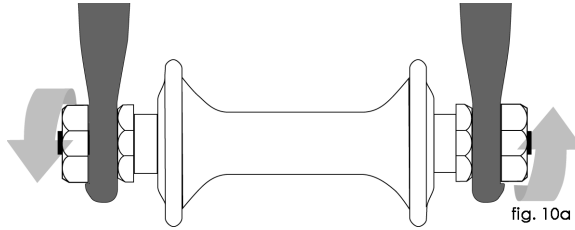

fig. 10a
- Hex nuts or hex key bolts which are threaded on to or into the hub axle (bolt-on wheel, fig. 10a)